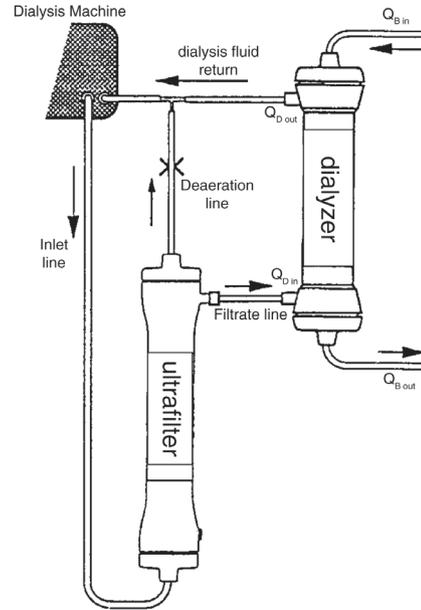

Figure 1: Recommended connection of the U 8000 S when used in the dialysis circuit.
1. Connect the U 8000 S to the dialysis fluid circuit as illustrated in fig. 1. Be certain to use aseptic technique when connecting the sterile filtrate line.
3. The deaeration shall be done via the deaeration line connected to the deaeration/fluid outlet on the top of the ultrafilter (fig.1). Make sure that there is a proper distribution of fluid through both the lumen and the filtrate compartment during rinsing.